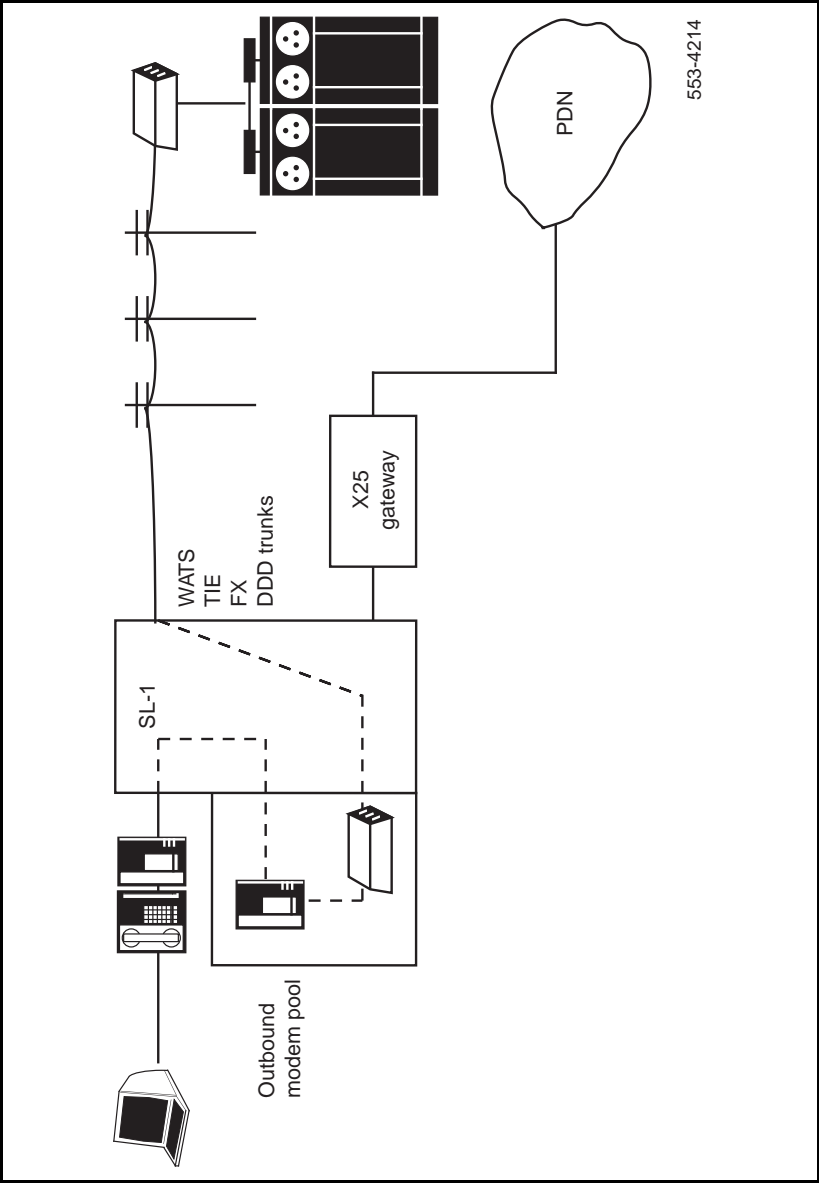

Figure 4
- Remote Terminal to Local Device applications involve the use of an inbound modem pool for incoming calls to access local devices (terminals or computer ports). The Meridian 1 permits incoming data calling on facilities also used for voice communications, such as WATS, FX and TIE lines. (Figure 4).